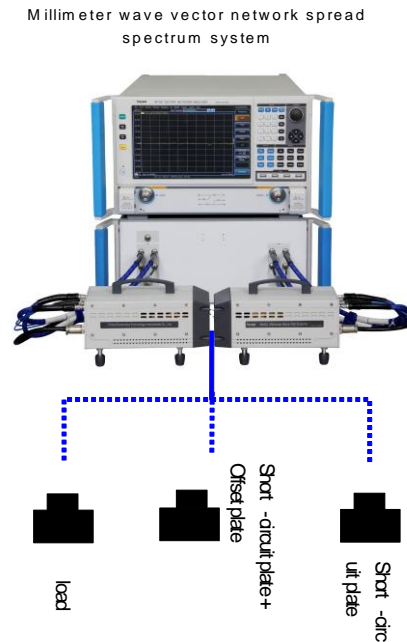

Figure 9-3. Connection diagram of single port calibration
- 1) Connect the system as shown in Figure 9-3, and preheat for more than 30 minutes.
- 3) According to the instrument prompt, as shown in Figure 9-3, complete port 1 single port calibration. The calibration sequence is “load → offset plate + short circuit plate → short circuit plate”.